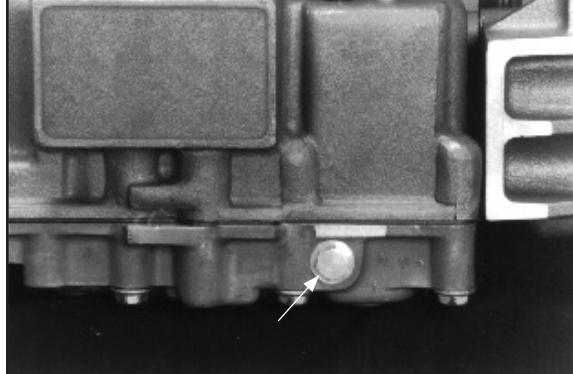

Figure 7
5. Begin by draining the oil from the transmission. Use caution, since the oil may be hot (**Fig. 7**).